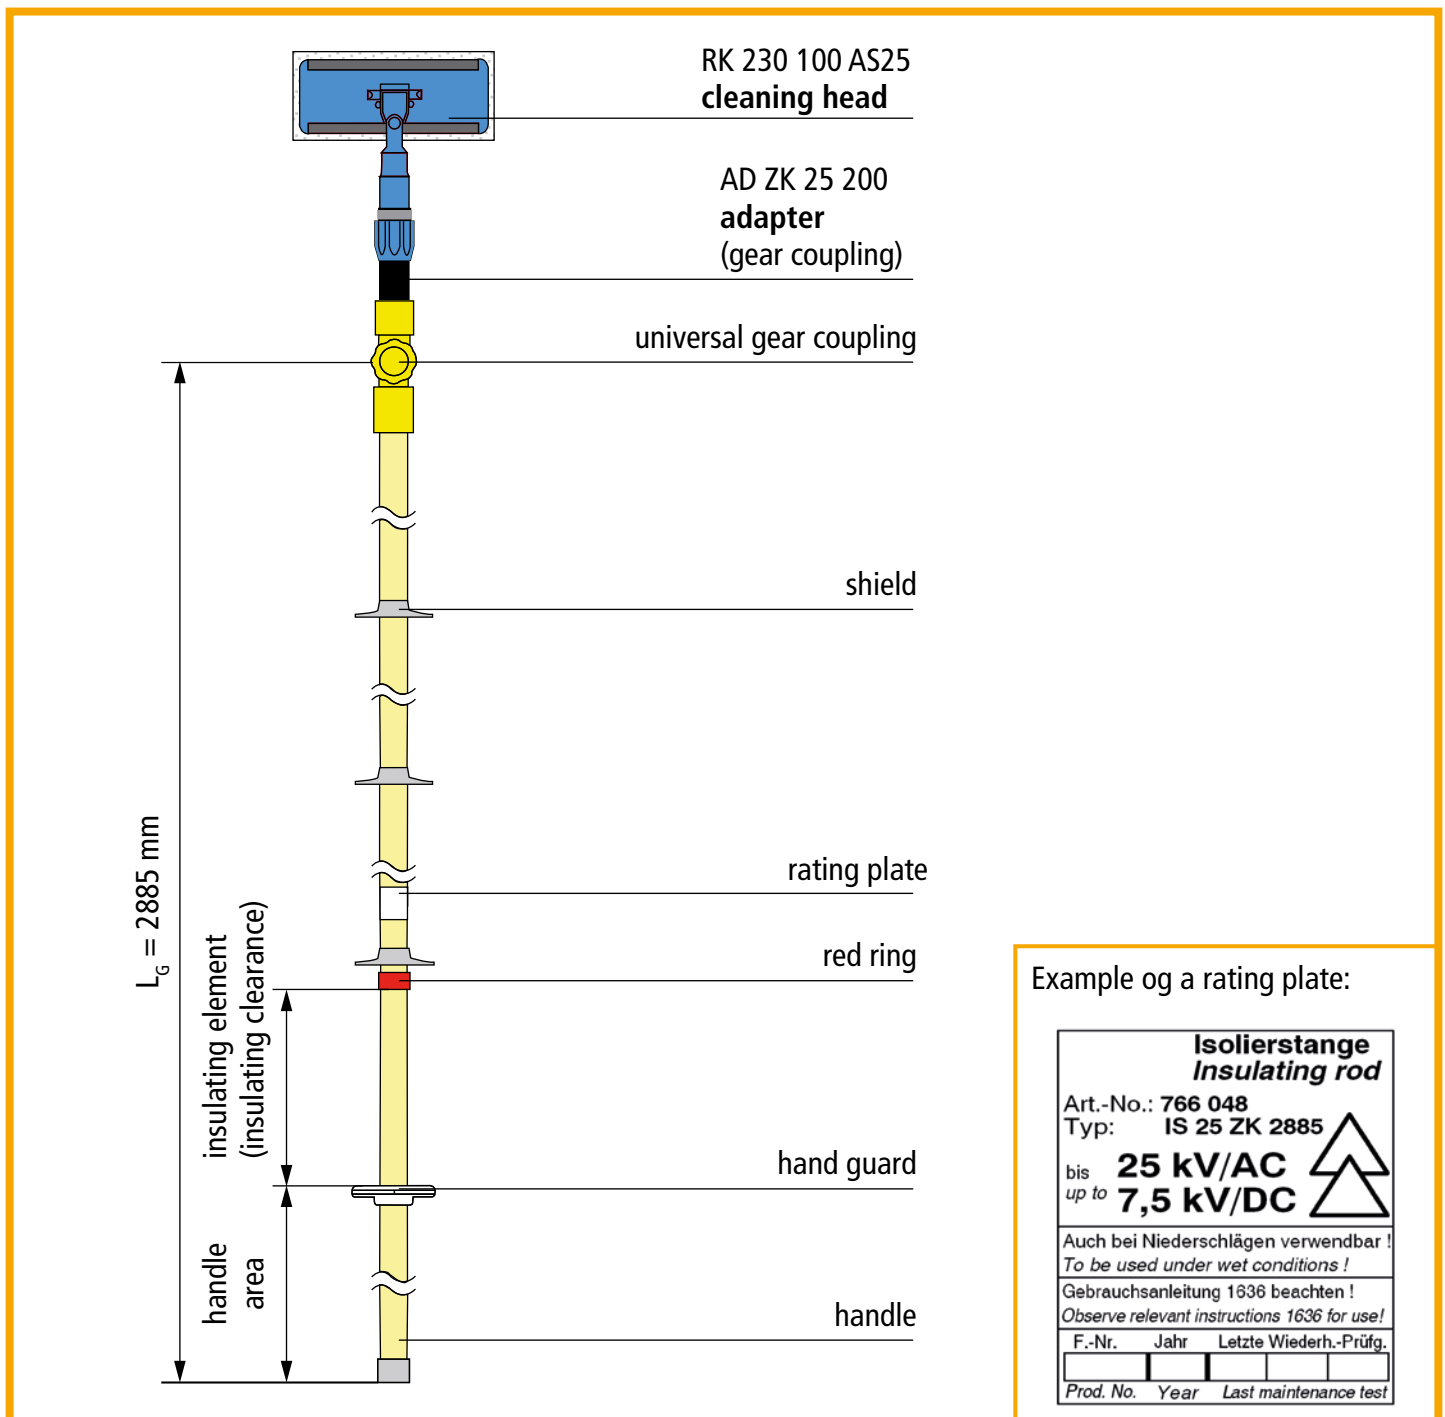

Figure 4 Operation
- 3.11 Only contact the handle of the **IS 25 ZK... insulating stick** (see Fig. 4, page 8).
- ➔ The **hand guard** and the **red ring** limit the **insulating element (insulating clearance)** (see Fig. 4).